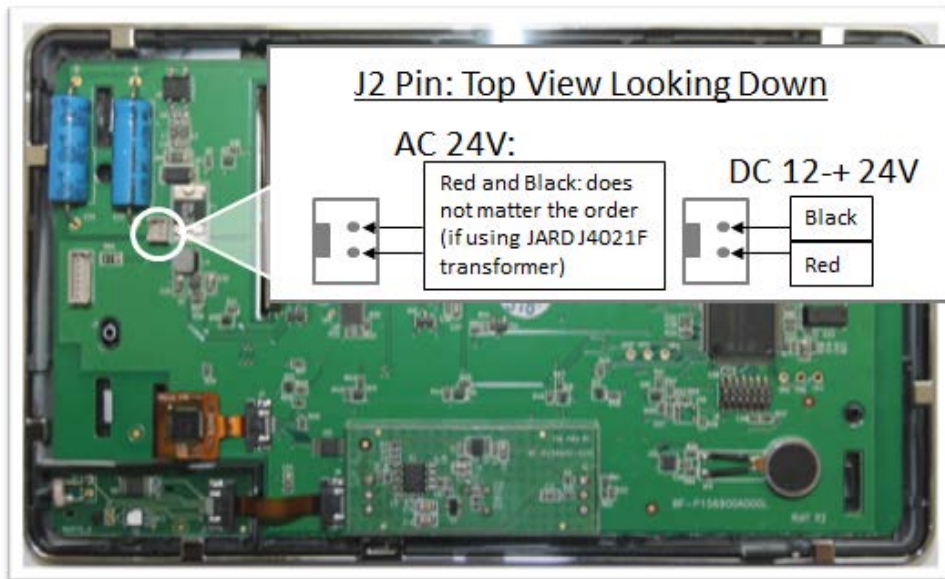

Figure 28: J2 Pin
- Step 8 Note the J2 pin as shown in Figure 28; this is the pin to which you will connect power.